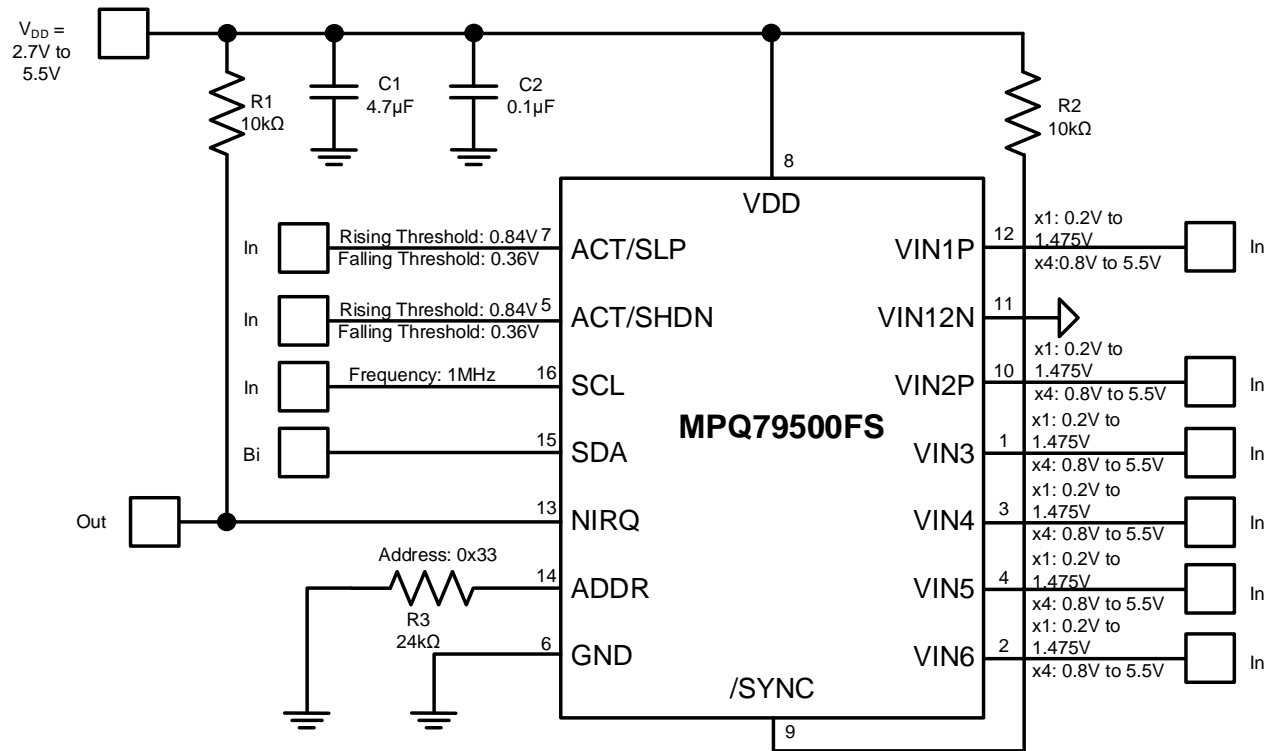

Figure 31: Typical Application Circuit of a Single MPQ79500FS
11) The recommended PCB layout is based on the typical application circuit (see Figure 31 on page 90).